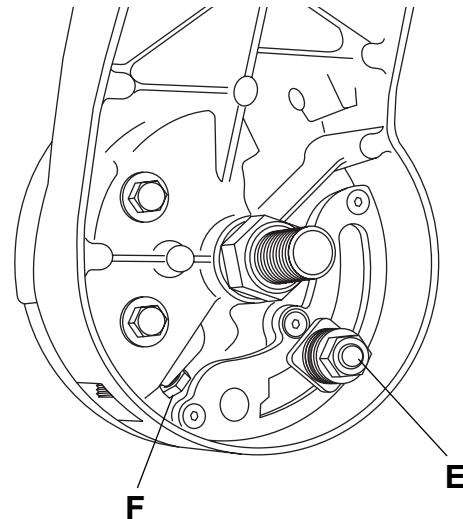

Figure 2. Left 45° Bevel Adjustment
5. Place 10mm open-end wrench on bolt head "F". While rotating bolt "F", watch blade tilt movement until it is aligned with the 45° surface on combination square. (Figure 2)
2. Place 17mm open-end flat wrench on bolt head "E" (Figure 2).